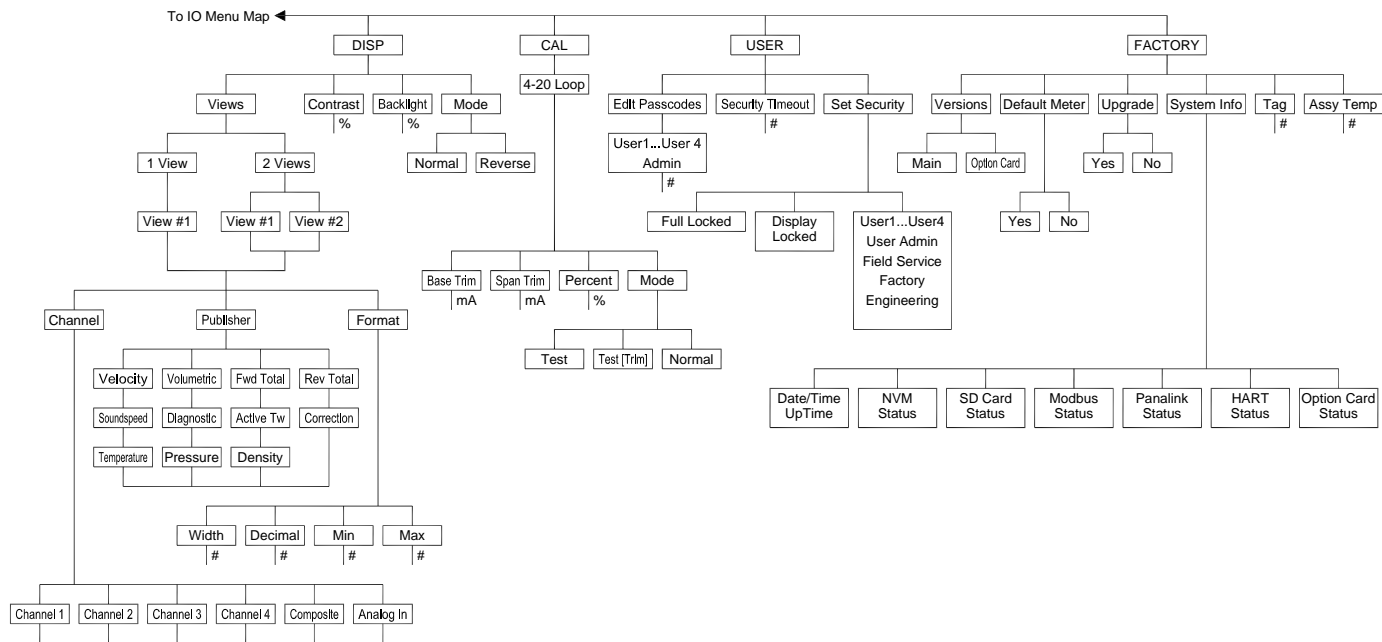

Figure 238: DISP, CAL, USER, and FACTORY Menu Map
- Figure 238: DISP, CAL, USER, and FACTORY Menu Map